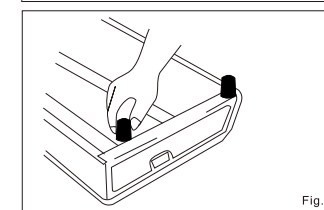

Fig. 12
4. Attach the rubber legs to the cooker by turning the cooker upside down and screwing them into the openings on the cooker bottom.(Fig. 12)